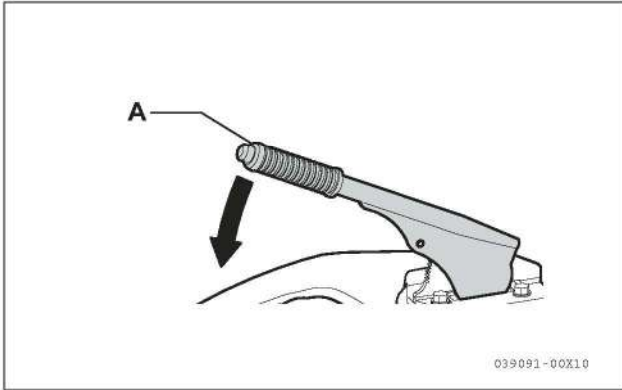

Fig 8-10
1. Press the top button on the parking brake lever (Fig 8-10, A) down.